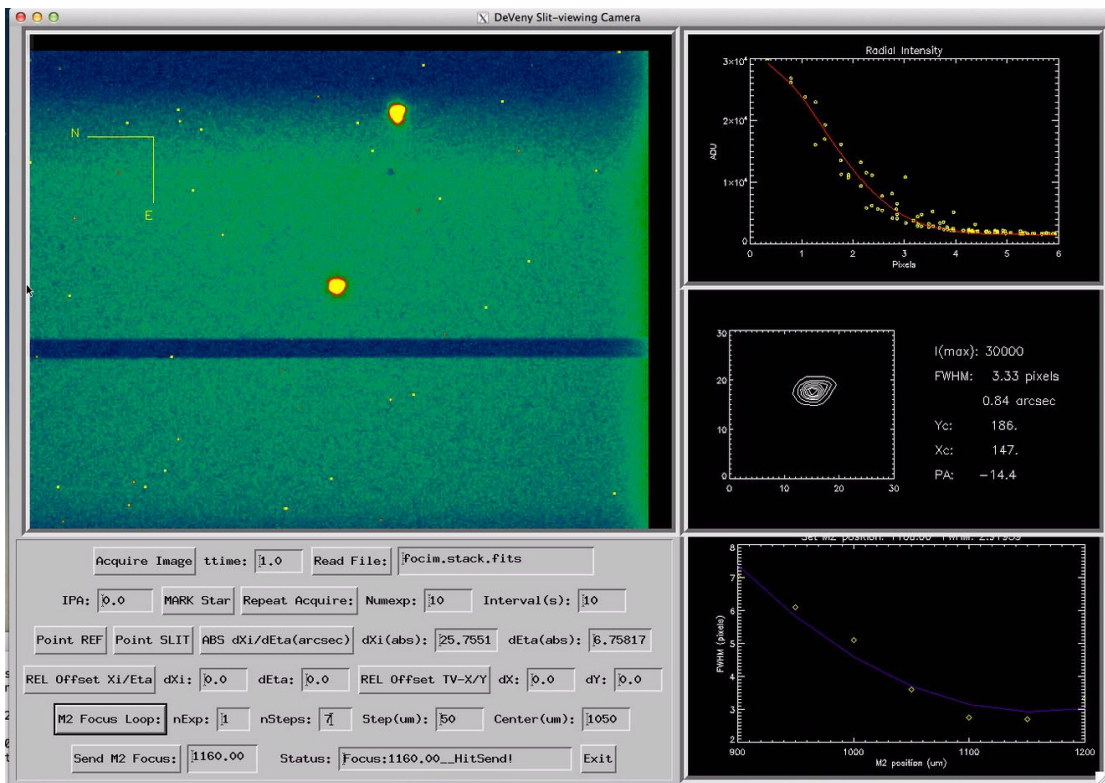

Figure 20. IDL slitview control GUI. A star can be seen at the reference location. In the right hand panel a contour and radial plot have been produced.
- 6) **Point REF**: Moves the telescope to put the star ~ 5 arcsec above the center of the slit. A verification image is automatically taken following the offset. After pressing the Status field will change to say Markstar! and the cursor will change. A radial and contour plot will be generated (see Figure 20).
- 7) **Point SLIT**: Moves the telescope to put the star approximately at the slit center position. A verification image is automatically taken following the offset. After pressing the Status field will change to say Markstar! and the cursor will change. A radial and contour plot will be generated (Figure 20).